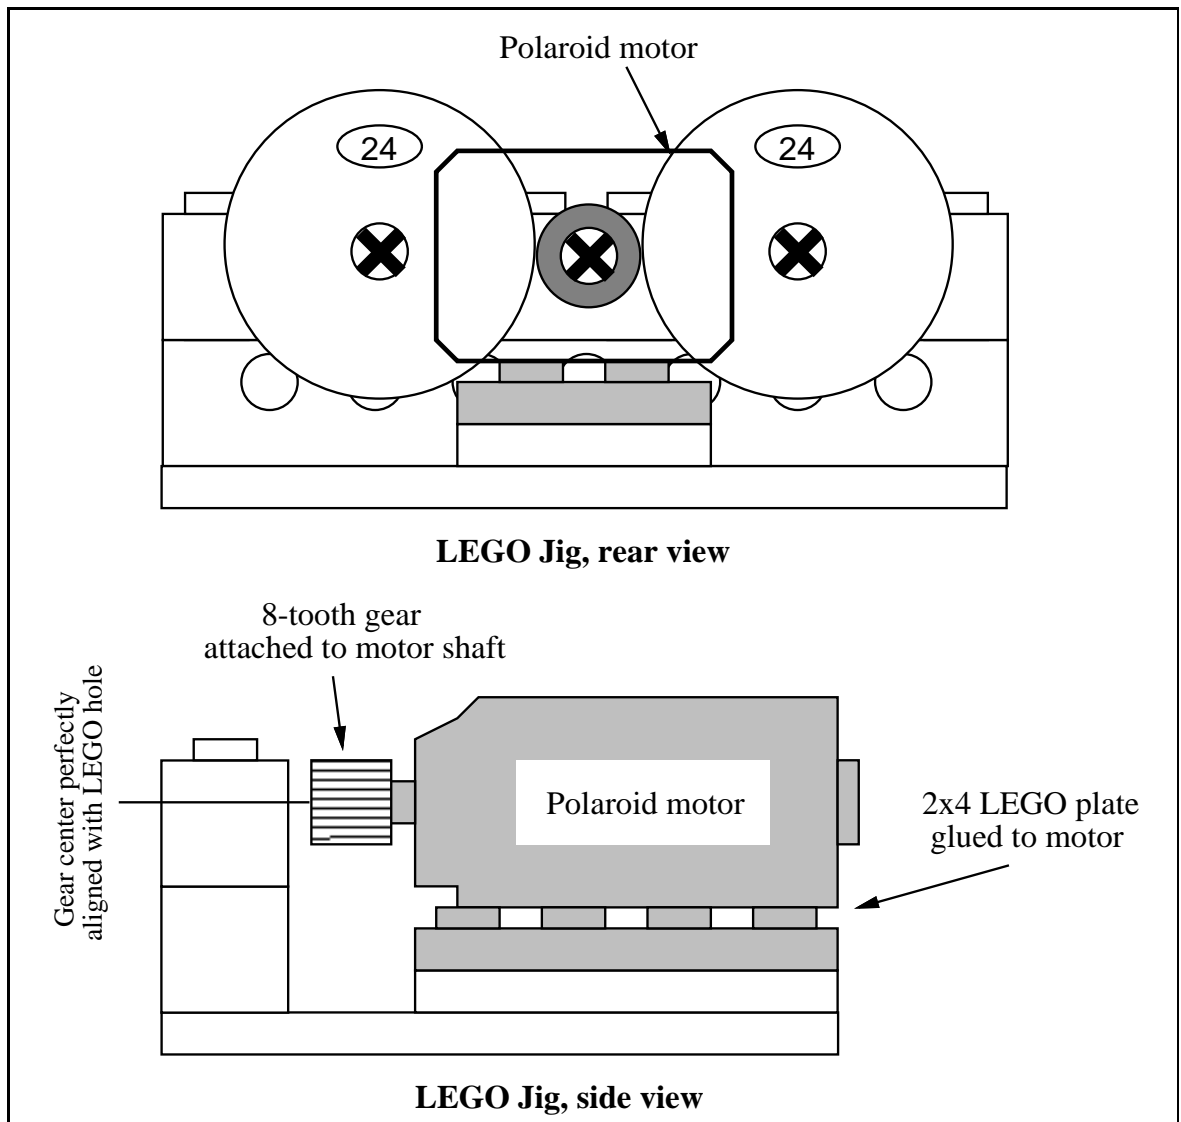

Figure 1.32: LEGO Jig for Mounting Polaroid Motor
This platform or jig is shown in Figure 1.32. It is constructed from two  $2 \times 8$  beams, one  $6 \times 8$  flat plate, one  $2 \times 4$  plate, two 24-tooth gears, and two axles.
- Assemble the jig as shown in Figure 1.32. A second 2×4 plate will be mounted to the motor.